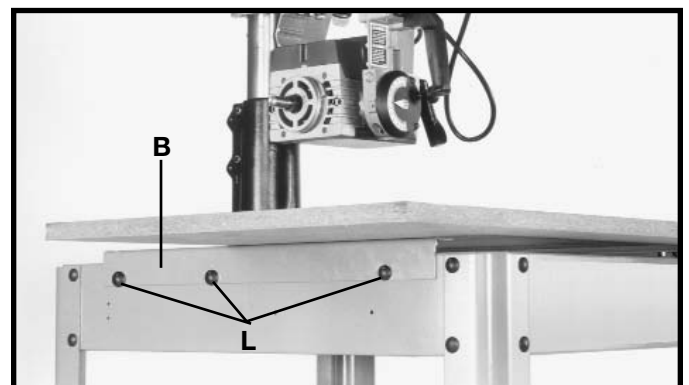

Fig. 18
4. Secure table supports, one of which is shown at (B) Fig. 18, to each side of saw base using six 5/16-18x5/8" carriage head screws (L) and six 5/16-18 flanged hex nuts. Do not completely tighten nuts at this time. **IMPORTANT: Insert screws through table supports and saw base from the outside.**